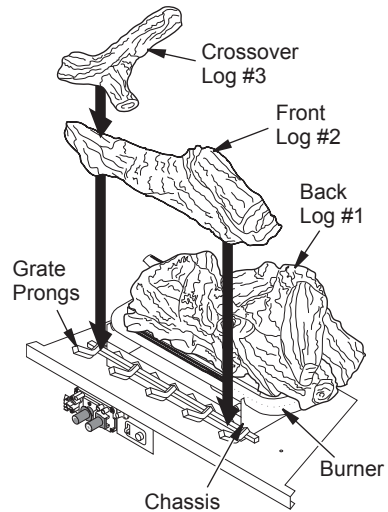
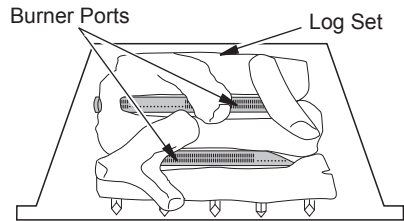

Figure 23 - Installing Log Set
Figure 24 - Installing Log Set (Top View)
1. Place back log #1 on grate to fit as illustrated in Figure 23. Make sure middle section at bottom of log set is seated into "U"-shaped cutout in center of chassis (see Figure 23). **IMPORTANT:** Make sure log does not cover any burner ports (see Figure 24).
2. Place front log #2 against front grate prongs as shown in Figure 23.
3. Place crossover log #3 on top of front and back logs as shown in Figure 23.